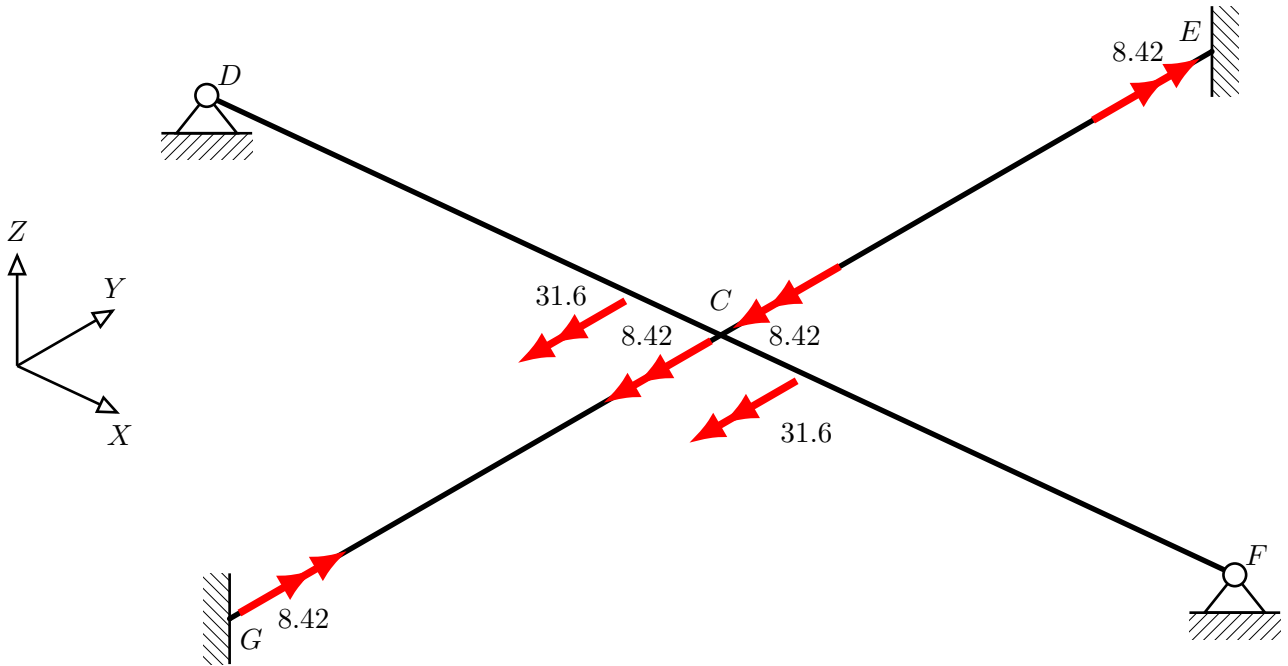
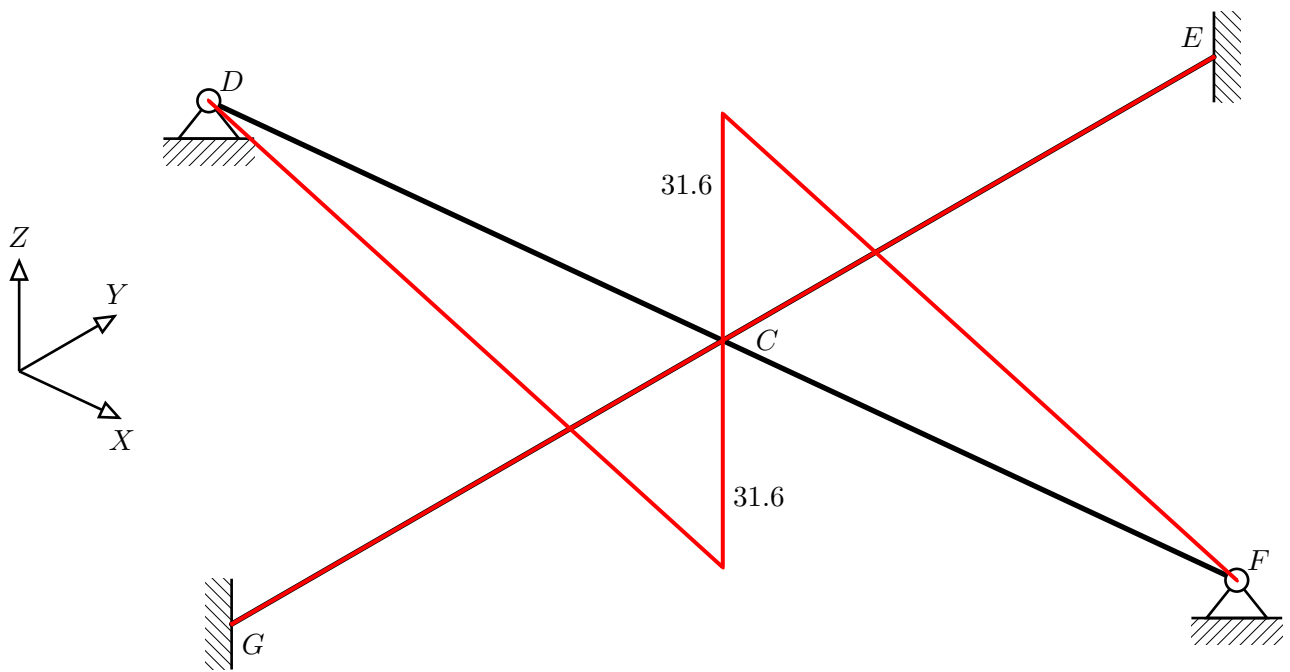

Figure 1: Free body diagram.
Figure 2: Bending Moment Diagram.
**Step 10** is to draw the internal actions diagrams. To do this, the results of the member actions which were derived in the local member coordinate system must now be considered now in the global coordinate system. The easiest way to do this is to draw the directions by carefully interpreting the member force signs against the global axis system. The resulting FBD is shown in Figure 1.
Considering the BMD, for each member, to identify the side in tension it can help to visualise the deformation resulting from the forces acting on it indicated in the free body diagram, Figure 1. Since there are no loads acting between the nodes, the BMD is comprised of straight lines between the values at each node. The BMD is shown in Figure 2.
For the TMD, it is not necessary to adopt a strict drawing convention once the relative actions are indicated. For example, the double-headed arrow in Figure 1 indicating the torsion of member  $CE$  could be thought